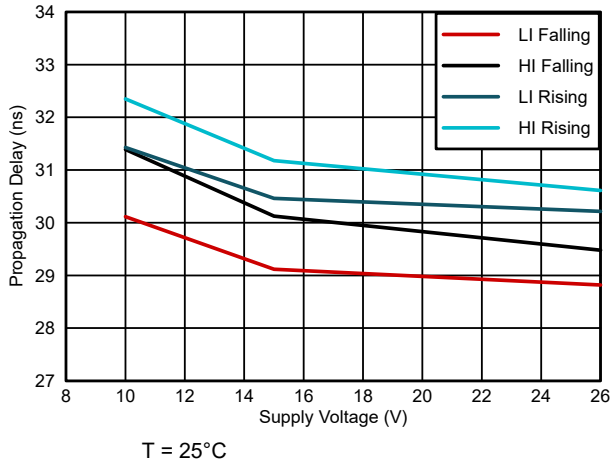
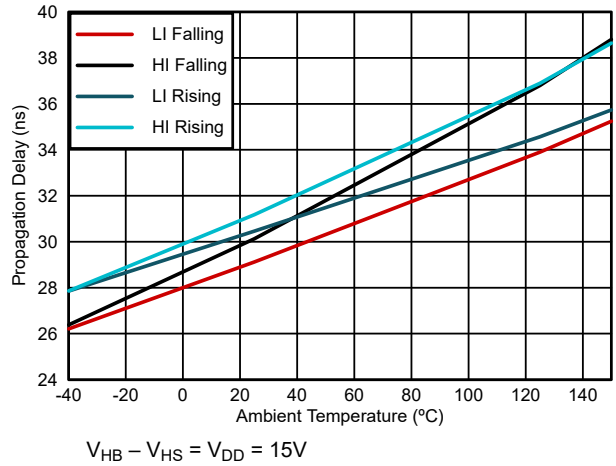
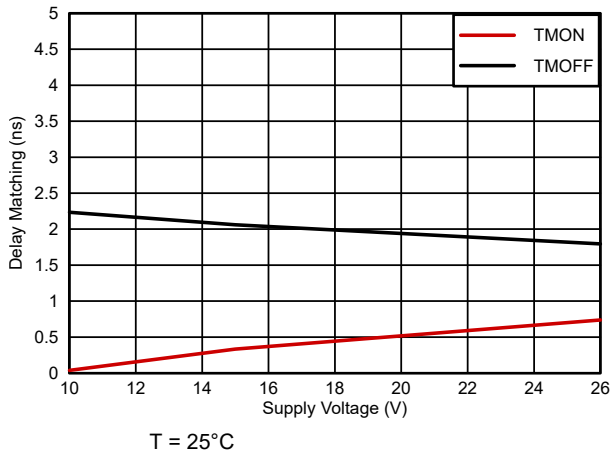
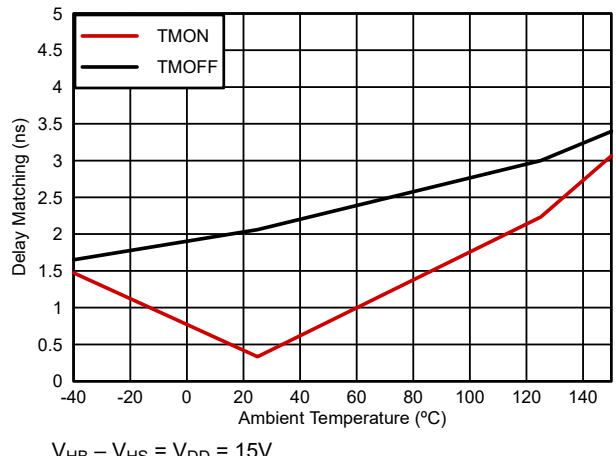

Figure 5-2. Propagation Delay vs Supply Voltage
Figure 5-3. Propagation Delay vs Temperature
Figure 5-4. Delay Matching vs Supply Voltage
Figure 5-5. Delay Matching vs Temperature
The level shift circuit (refer to the functional block diagram in Section 6.2) is the interface from the low-voltage input stage to the high-side driver stage which is referenced to the switch node (HS). The level shift allows control of the HO output referenced to the HS pin and provides excellent delay matching with the low-side driver. The delay matching of the UCC2773x is summarized in Figure 5-5 and Figure 5-4 .
The UCC2773x features a fast, 32ns (typical) propagation delay (refer to Figure 5-2 and Figure 5-3) between input and output. The UCC2773x also offers well-matched delay between the HO and LO channels (6ns max) enabling more precise dead-time control over operating conditions (refer to Figure 5-4 and Figure 5-5).